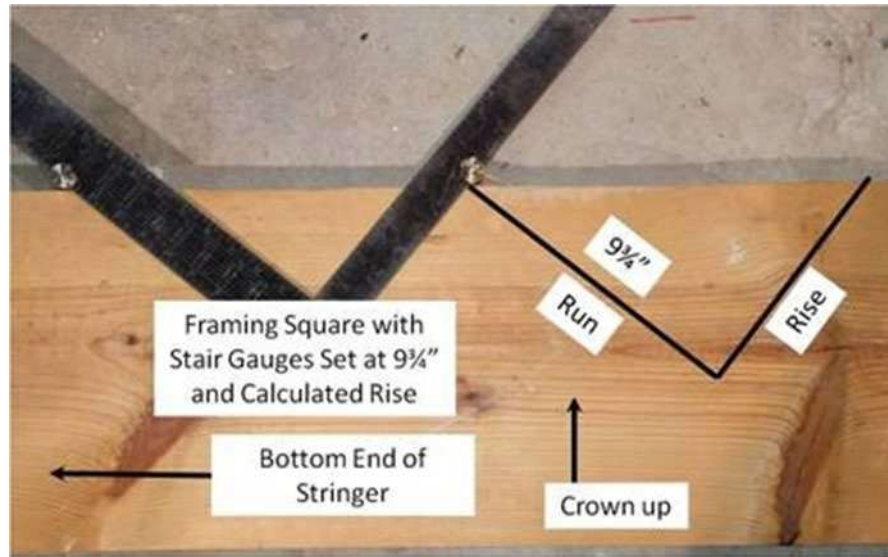

Figure 4-6. Stair Stringer Layout.
- Attach stair gauges to the framing square and locate the precise dimensions calculated in Section 4.5.1 for run and rise. If the rise is 7¾”, set the gauge to this dimension on the short side of the square; set the gauge to 9¾” on the long side of the square (see Figure 4-6).